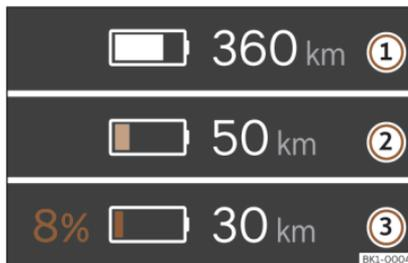

Fig. 3 On the digital instrument cluster: range and reserve indication.
The current state of charge of the high-voltage battery is indicated by the  symbol on the digital instrument cluster» **Fig. 3 ①**. The battery symbol will be more or less full depending on the state of charge of the battery.
The vehicle range is displayed in kilometres (km) or miles (mi) depending on the selected setting» **Fig. 3 ②**
- ① Battery state of charge and range
- ② Reserve indication (warning level 1) and range
- ③ Reserve indication (warning level 2) and range
When the red zone of the high voltage battery reserve is reached, the  symbol is displayed together with a percentage value in colour» **Fig. 3 ③**.